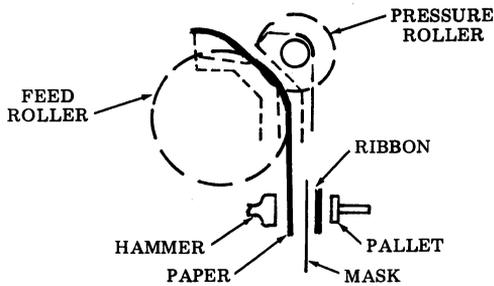

Fig. 54—Friction Feed Printer Equipped With Noise-Reduction Parts
- 9.07 With printer raised and paper access chute opened, feed paper up by hand behind the mask and between the feed roller and pressure roller, making sure point of paper does not enter opening mask (Fig. 54). (The mask is a plastic piece mounted between the ribbon and the feed roller. An opening in the mask allows for the ribbon to contact the paper during printing.)